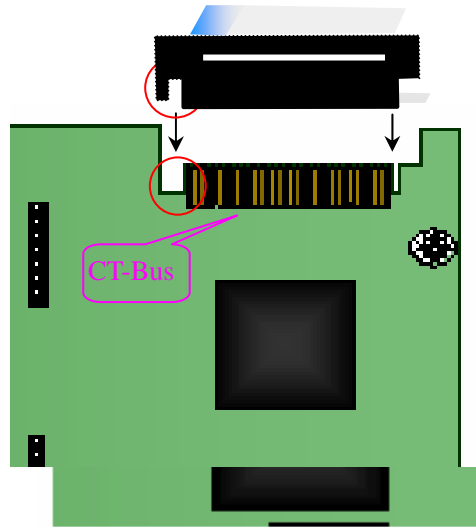

Figure 2-9 Connection of H.100 Bus
- ① See Figure 2-9 for correct insertion. Do not twist or insert in the opposite direction.